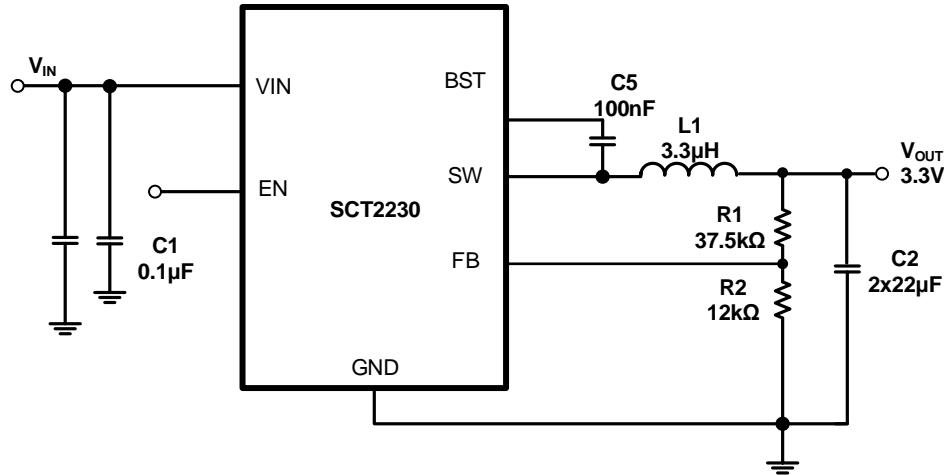

Figure 4. 12V Input, 3.3V/3A Output
The SCT2230 features external programmable output voltage by using a resistor divider network R1 and R2 as shown in the typical application circuit Figure4. Use equation (8) to calculate the resistor divider values.